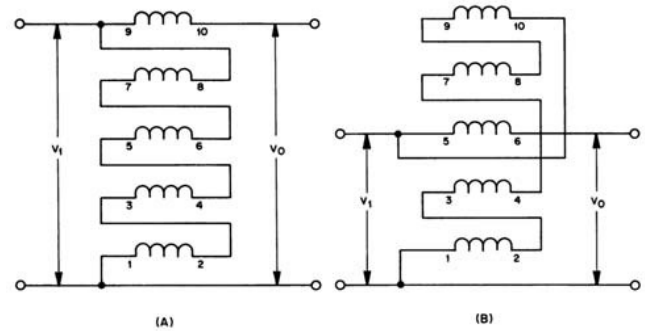

Figure 8 · 5-winding 1:1.56 Bootstrap TLT connections: (A) higher impedance; (B) lower impedance.
Figure 8 shows two high frequency models using ratios of 1:1.56. (A) is designed to match 50 ohms to 78 ohms while (B) is optimized to match 32 ohms to 50 ohms. This device has 5 transmission lines in series to help the low frequency performance, and because it adds a delayed voltage of only $V/5$ it can have a better high frequency response than its trifilar counterpart.